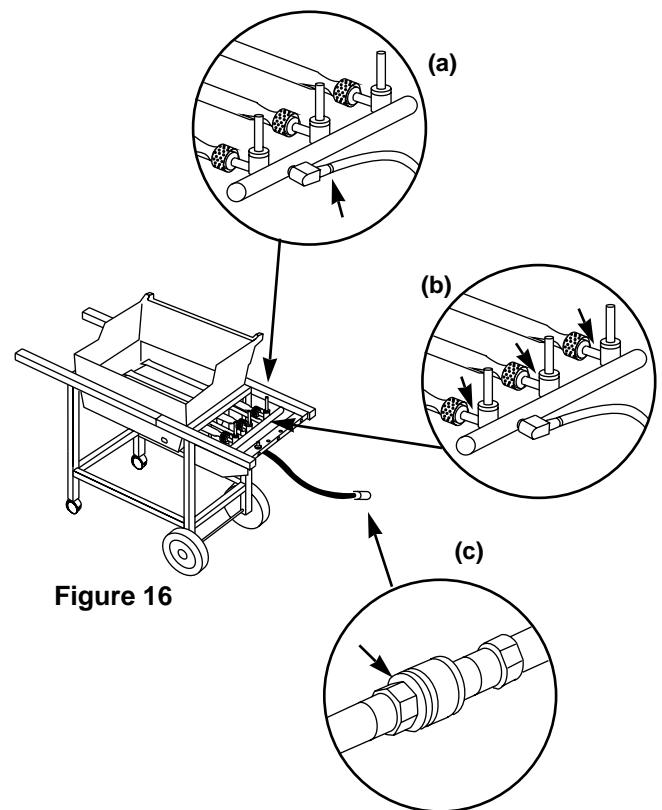

Figure 16
a) Hose to manifold connection. Figure 16 (a).
b) Valves to manifold connections. Figure 16 (b).
c) Hose to quick disconnect connection. Figure 16 (c).